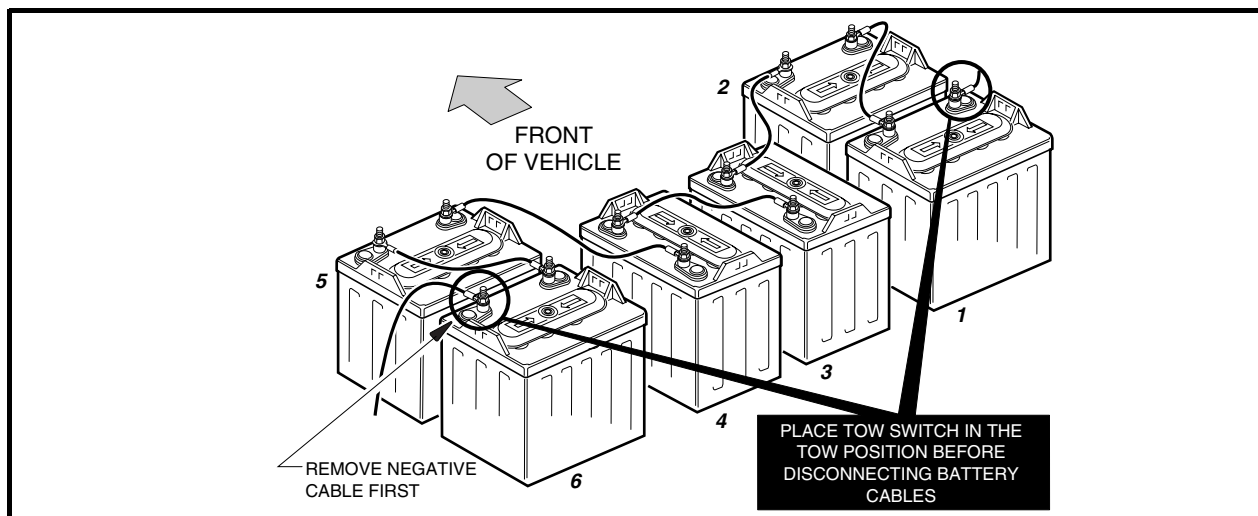

Figure 15-1 PowerDrive Plus Battery Configuration
- TO AVOID UNINTENTIONALLY STARTING THE VEHICLE, DISCONNECT BATTERIES AS SHOWN IN **FIGURE 15-1, PAGE 15-2.**